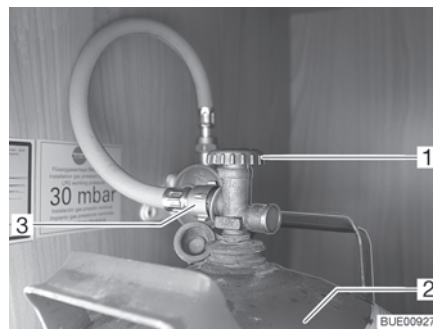

Fig. 114 Gas bottle compartment
- Close the regulator tap (Fig. 114,1) on the gas bottle (Fig. 114,2). Pay attention to the direction of the arrow.
- Unscrew the gas tube (Fig. 114,3) from the gas bottle.